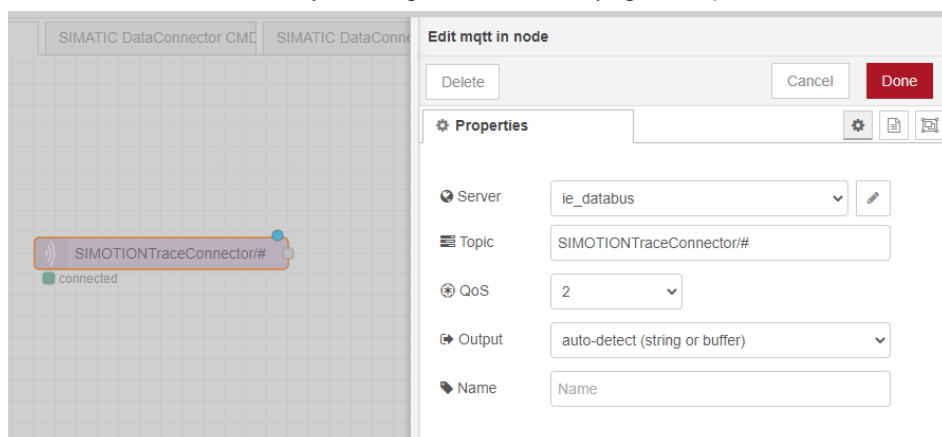

Figure 25 Node configuration
2. Open node properties and enter topic name (Figure 25). Default one should be “SIMOTIONTraceConnector/#”, if user needs specific topic, he should input a custom name